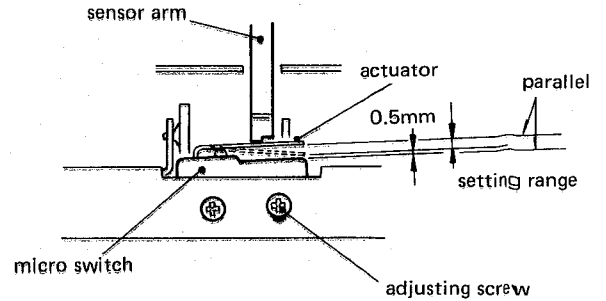

Fig. 4-3
2. Adjust mounting position of two micro switches, cassette-in switch (S401) and record safety switch (S402), so that the actuator position is in the setting range shown by Fig. 4-3.